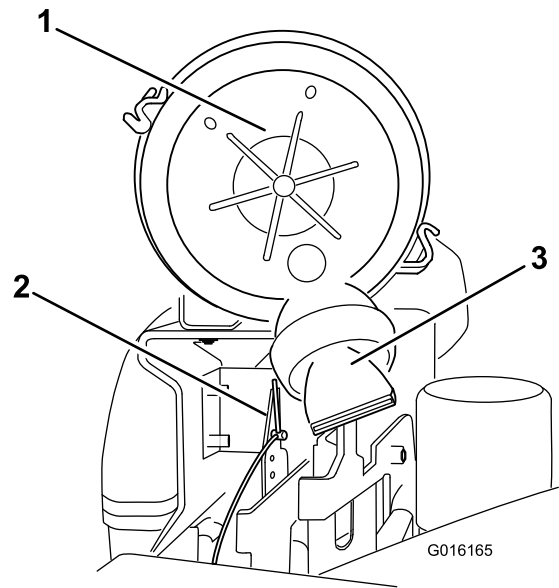

Figure 47
- Position the air-cleaner cover, so that the breather valve does not interfere with the throttle mechanism (Figure 47).